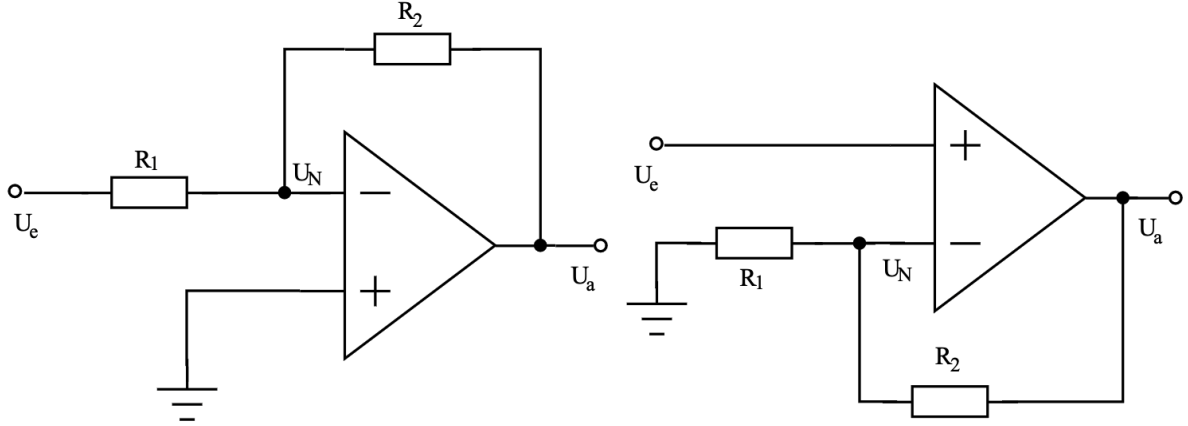

Figure 1: Basic circuits of the OP-AMP: (left) The inverting amplifier and (right) the non-inverting or electrometer amplifier
The two basic circuits according to Fig. 1 are operated with $R_1 = 10 \text{ k}\Omega$ and $R_2 = 47 \text{ k}\Omega$. The function generator with low frequencies (approx. 50 Hz) serves as the signal source u_e . The operational amplifiers LM741 are powered with $\pm 15 \text{ V}$.
The inverting amplifier Fig. 1 (left) amplifies with the voltage gain v_U given by Eq. (1). The voltage u_N at the inverting input of the OP-AMP is zero (virtual ground). When the input voltage reaches $u_e > 3 \text{ V}$ ($u_{e_{pp}} > 6 \text{ V}$), the OP-AMP saturates and Formula 1 no longer holds.
The circuit diagram for this exercise can be seen in Fig.1 part a). Additionally the OP-AMP gets loaded with a 100Ω Resistor. The goal of this exercise is to register the overload signal at U_N . The overload signal occurs just before the OP-AMP saturates and is caused by a protection circuit in the OP-AMP.
For next part of the exercise the circuit in Fig. 1 part b) is used. The expected voltage gain is given as